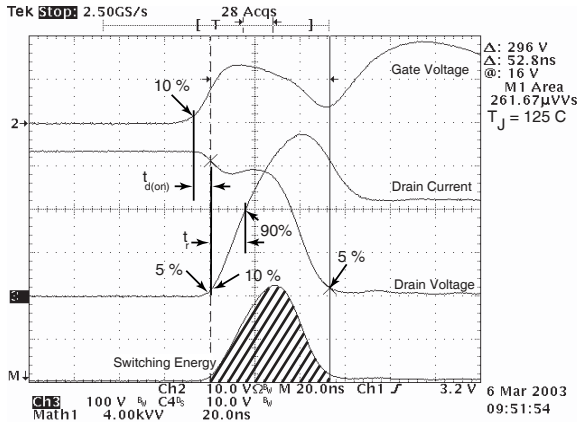

Figure 18, Turn-on Switching Waveforms and Definitions
① Repetitive Rating: Pulse width limited by maximum junction temperature
② Pulse Test: Pulse width < 380 μs , Duty Cycle < 2%
③ See MIL-STD-750 Method 3471
④ Starting $T_J = +25^\circ C$, $L = 3.97mH$, $R_G = 25\Omega$, Peak $I_L = 22A$
⑤ dv/dt numbers reflect the limitations of the test circuit rather than the device itself. $I_S \leq -I_D 22A$ $di/dt \leq 700A/\mu s$ $V_R \leq V_{DSS}$ $T_J \leq 150^\circ C$
⑥ E_{on} includes diode reverse recovery. See figures 18, 20.